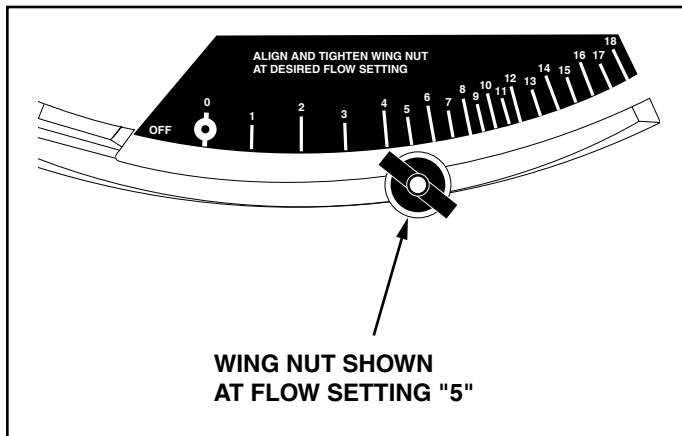

FIGURE 25
4. Loosen the plastic wing nut and move it to the desired setting. Retighten the nut. See figure 25.